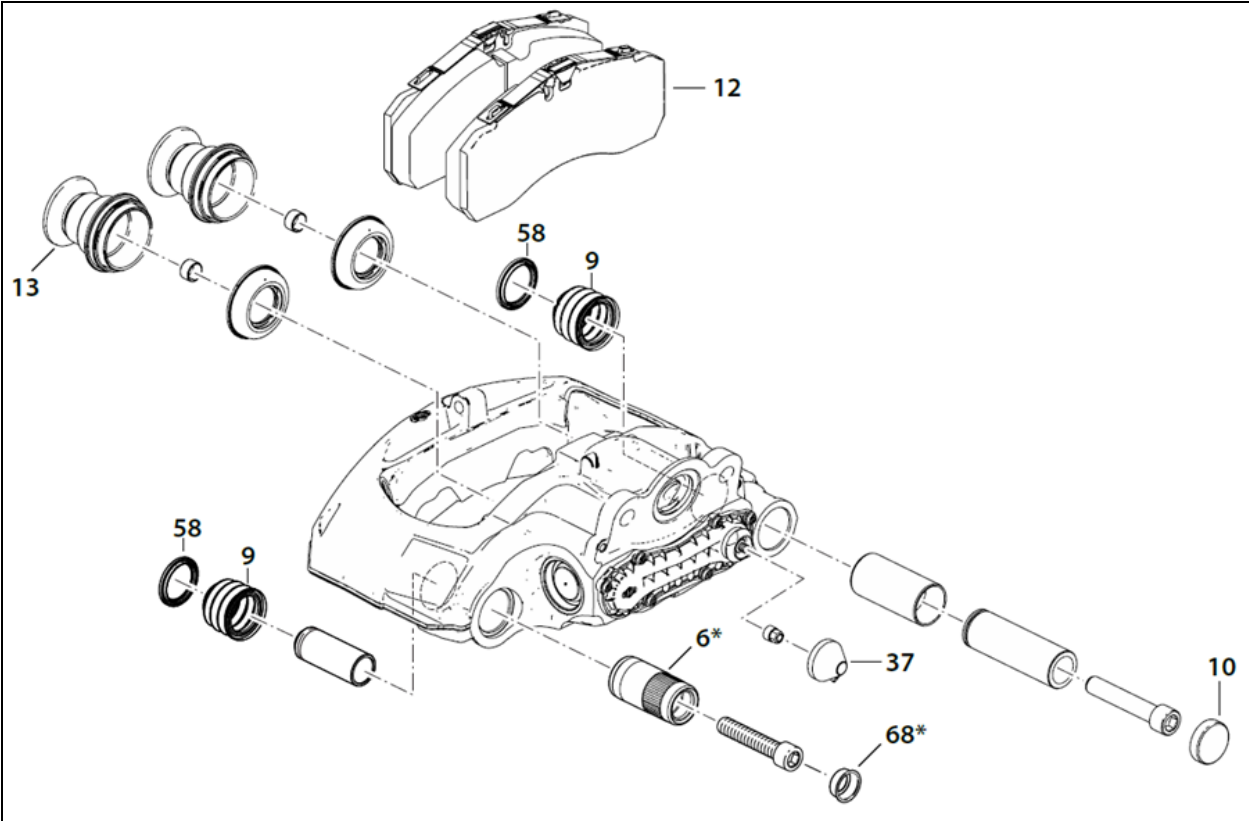

FIGURE 17: INSPECTION POINTS IDENTIFICATION
At each pad replacement, make sure the caliper operates smoothly over its full range of movement. If the caliper shows the following signs, replacement of the rubber bush/guide sleeve (item 6, Figure 17), guide pin (items 4 & 5 Figure 18, screw (items 39 & 40) and cap (items 10 & 68) is required.